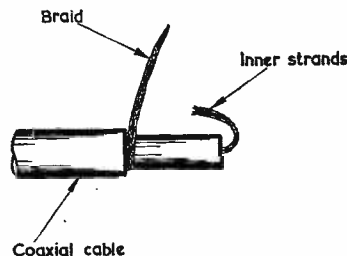

Fig. 1. First step in terminating a coaxial cable
It isn't always an easy matter to terminate coaxial cables neatly. I am, in consequence, indebted to Mr. P. A. Graves of Westcliff on Sea, Essex, who has sent us some useful information on this subject, together with the diagrams which are reproduced here as Figs. 1 and 2.
4. Fold the inner strands back down the insulation. The cable end should now be as in Fig. 1.